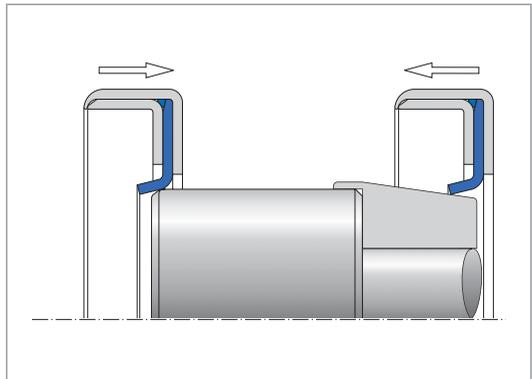

Fig. 51 Fitting a Simmerring with sealing lip made of PTFE
- When fitting over a groove of a tongue and groove joint on the shaft, the groove on the shaft must be covered with a protective cap (→ Fig. 51), to avoid damage to the sealing lip
It is important that the PTFE sealing lip is not damaged, especially when assembling the front side in the direction of the fitting. The use of a pilot shaft with a chamfer angle of 10° ... 15° (→ Fig. 51 is recommended).